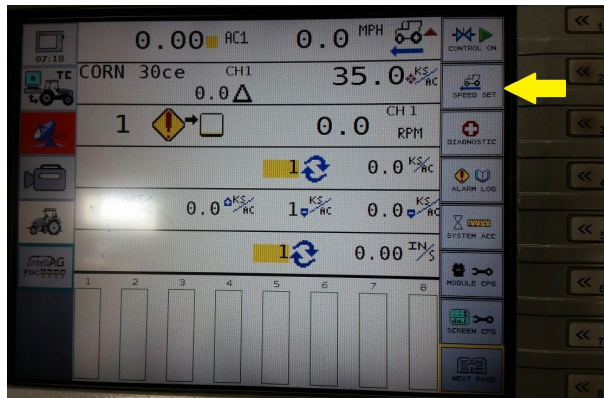

Figure 52
Step 3. Push **Speed Set**. (Figure 52)